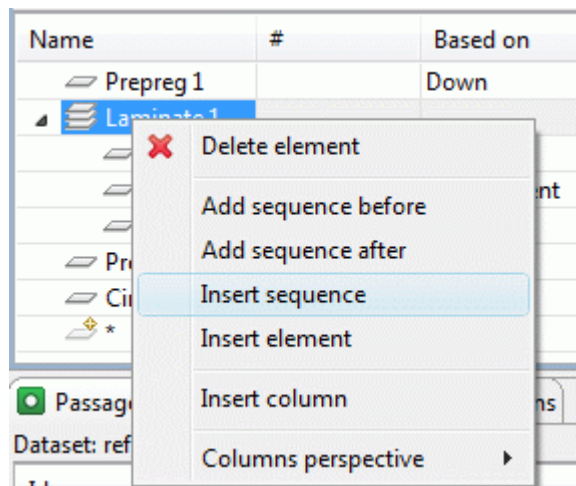

Figure 3. Context sensitive menu with selected *Insert sequence* menu item
- Right click and select the Insert sequence menu item in the appeared context sensitive menu (see Figure 3).